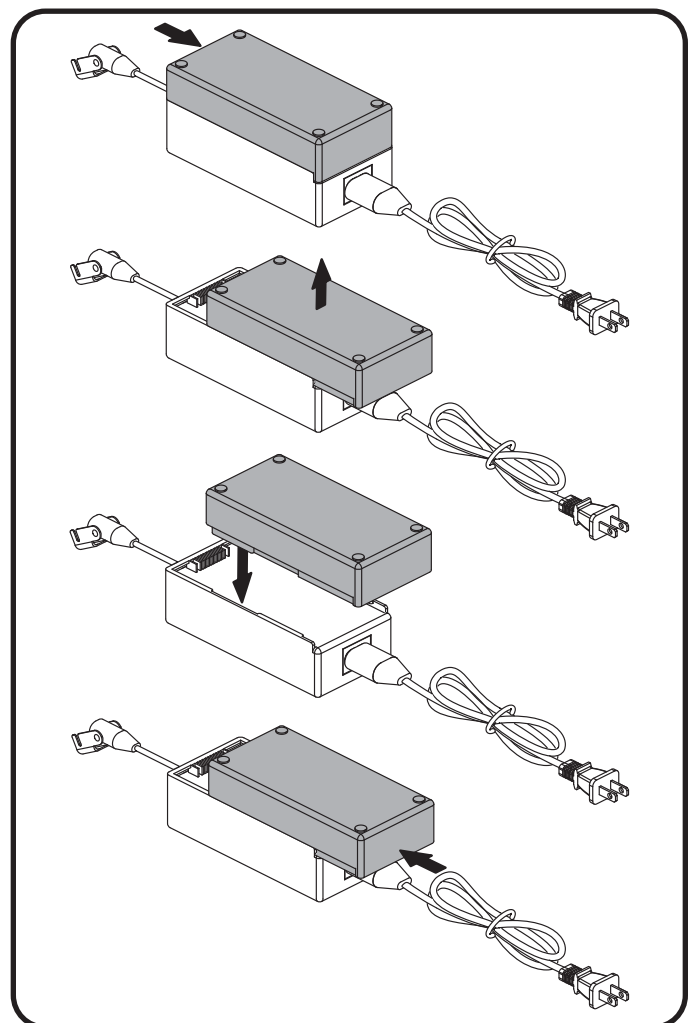

Figure 4.6 Lithium-Ion Battery Replacement
2. Position the external transformer so that the lithium-ion battery is facing upward (**fig. 4.6**).
5. Place the new lithium-ion battery on top of the external transformer with the securement grooves toward the external transformer (**fig. 4.6**).